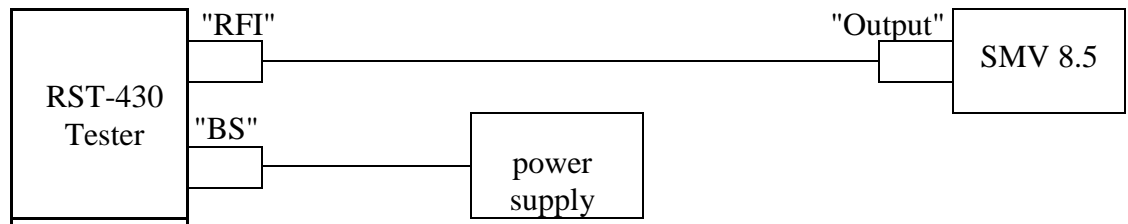

Fig.3
6.3.2 Determination of the error of the output HF level setting is performed according to the diagram shown in figure 3.